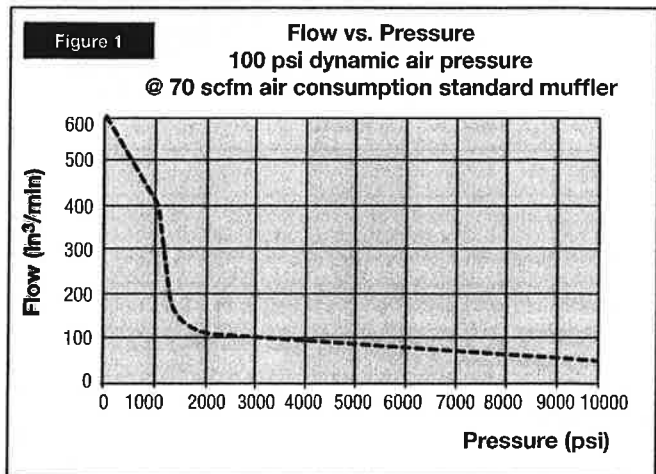

Figure 1
*Actual power consumption depends on the application. See Figure 1.